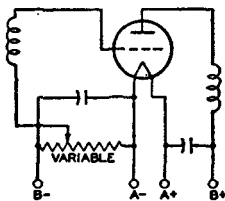
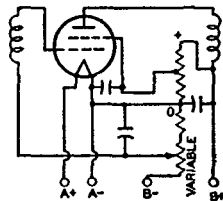

Fig. 68
Fig. 70
**Grid-bias variation** for the rf and if amplifier stages is a convenient and frequently used method for controlling receiver volume. The variable voltage supplied to the grid may be obtained: (1) from a variable cathode resistor as shown in Figs. 68 and 69; (2) from a bleeder circuit by means of a potentiometer as shown in Fig. 70; or (3) from a bleeder circuit in which the bleeder current is varied by a tube used for automatic volume control. The latter circuit is shown in Fig. 51.